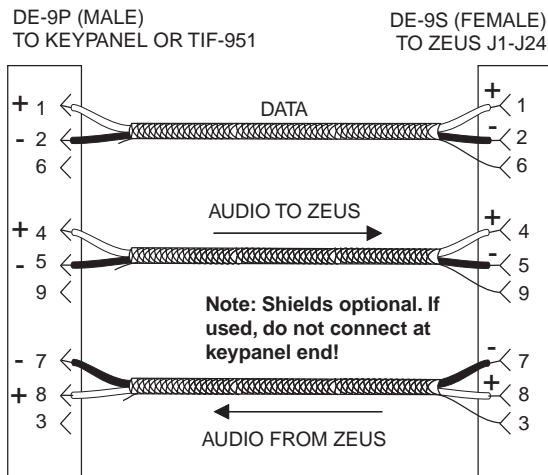

Figure 11. Keypanel and TIF-951 Intercom cable wiring diagram.
- **All Keypanels:** When constructing keypanel cables, use the 9-pin intercom cable diagram in this manual (Figure 11, page 23).
3. For each connected phone line, connect from the DE-9S connector (labeled "INTCM FRAME") on the back of the TIF-951 to a Zeus intercom channel. Use a 9-pin intercom cable (Figure 11, page 23).